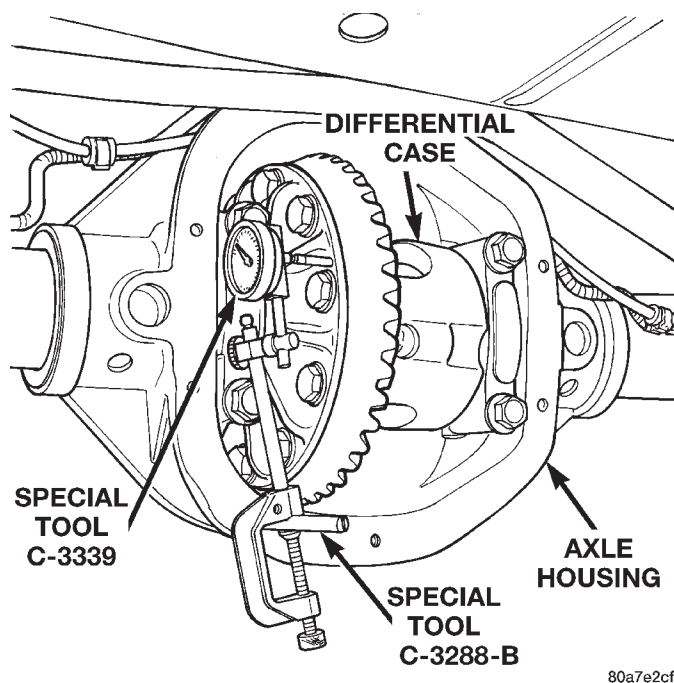

Fig. 56 Differential Side play Measurement
(8) Thread guide stud C-3288-B into rear cover bolt hole below ring gear (Fig. 56).
(9) Attach a dial indicator C-3339 to guide stud. Position the dial indicator plunger on a flat surface between the ring gear bolt heads (Fig. 56).
(20) Position the dial indicator plunger on a flat surface between the ring gear bolt heads. (Fig. 56).